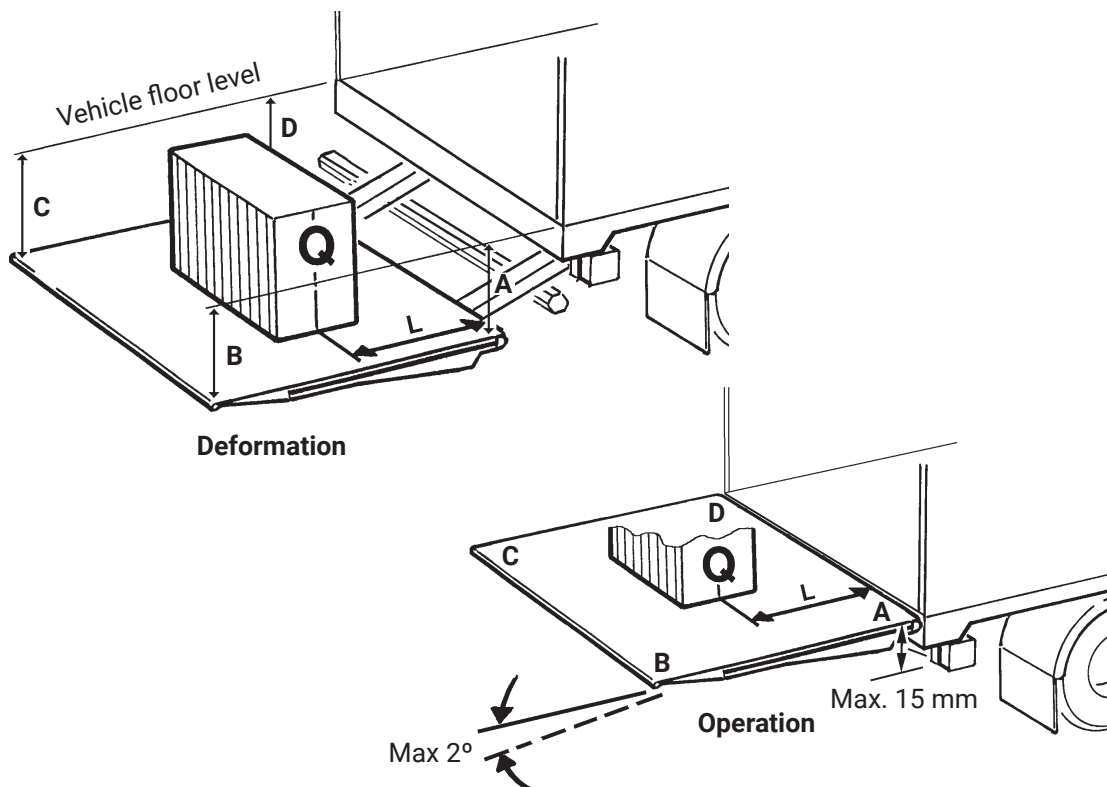

Figure 80. Testing and verification
- Position the tail lift half way to vehicle floor level and with the platform horizontal. Measure dimensions A-B-C-D for comparison as illustrated, see Figure 80.